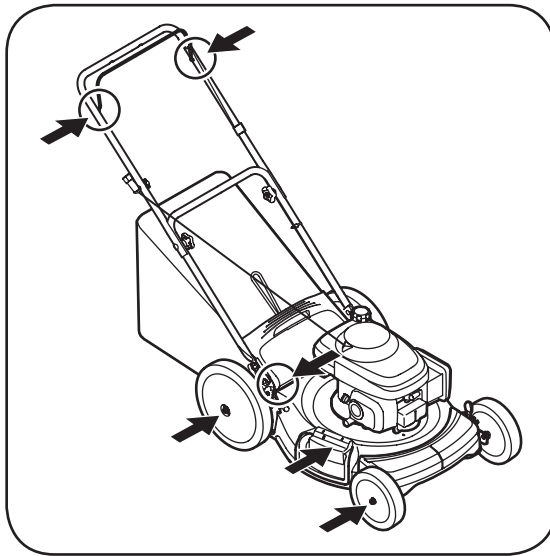

Figure 5-1: Areas to lubricate on mower.
1. Lubricate pivot points on the blade control at least once a season with light oil. The blade control must operate freely in both directions. See Figure 5-1.
2. Lubricate the wheels at least once a season with light oil (or motor oil). If wheels are removed for any reason, lubricate surface of the pivot arm and inner surface of the wheel with light oil. See Figure 5-1.
3. Lubricate the torsion springs and pivot point on the rear discharge door and side mulch plug periodically with light oil to prevent rust. See Figure 5-1.